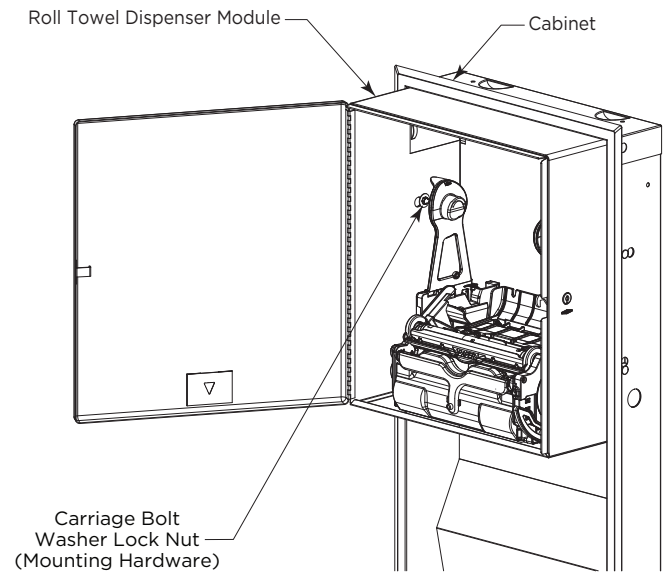

Figure 1
3. Loosen but do not remove the Washer Lock Nuts located on the left and right sides of the Modular Housing Assembly until the Carriage Bolt can be moved. The Hex Lock Nut should not be removed from the Carriage Bolt, ensuring that the Carriage Bolt will not fall into the wall cavity. (See Figure 1)
Locate two back corners of the module at 1-3/8" (35mm) from the bottom on the Module Mounting Plate. (Figure 1)